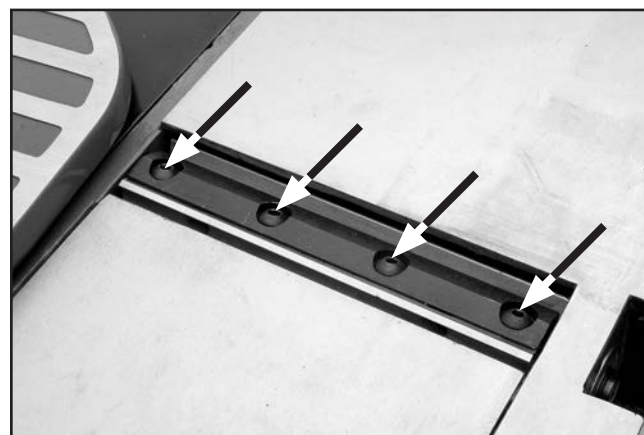

Figure 39. Cutterhead knife clamp screws.
5. Loosen (4) cutterhead knife clamp screws, as shown in **Figure 39**.